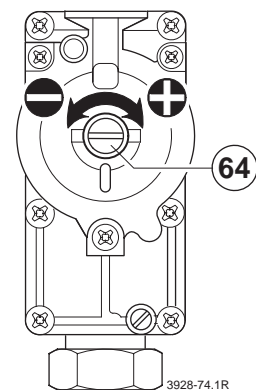

Fig. 44
- ▶ Remove the seal from the gas valve adjusting screw (64) and adjust the CO₂ level to the figure given in Table 15 for min. rated heat output. Refer to fig. 44.